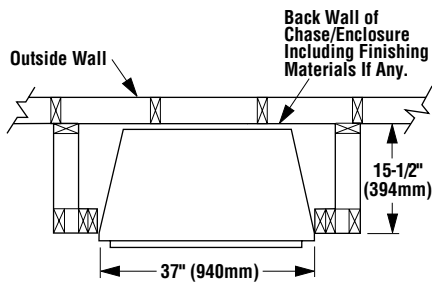

Figure 4
Step 1. Frame VF4000 appliance enclosures as illustrated in *Figures 4, 5 and 6*.
Note: Framing dimensions in *Figures 4 - 6* are calculated for a nailing flange depth of 1/2" (13 mm).